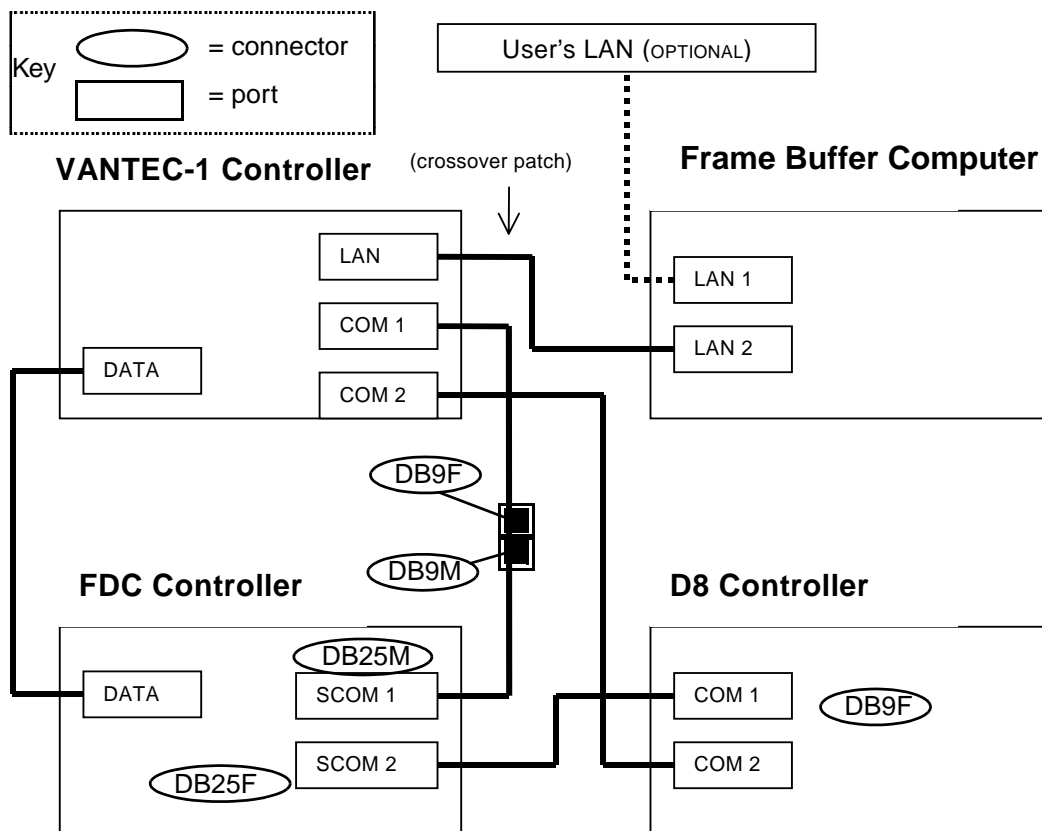

Figure 4.3 - Configuration setup
See Figure 3.6 and Figure 4.3 for the connection of the wiring. Guide the (3) preamp, and (2) high voltage and low voltage wires through the safety labyrinth at the back of the D8 enclosure. Make sure that no cables will be pinched when closing the back cover. Use a serial cable initially to configure the VANTEC-1 controller for the final network connection.
1. Connect the FDC controller, detector controller, control PC and D8 system like the configuration shown in Figure 4.3.
Figure 4.3 is a system block diagram that illustrates the major detector system components and the cabling for communication.
The latest version of the VANTEC-1 runs with an integrated FDC located inside the detector controller. Cabling (see Figure 4.6) differs in 2 ways compared with Figure 4.3: